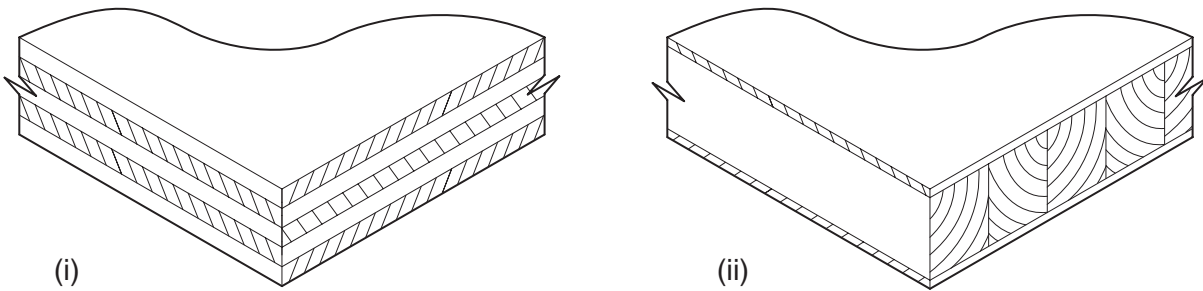

Fig. 7
- 8 The corners of two manufactured boards are shown in Fig. 7. Name the boards.